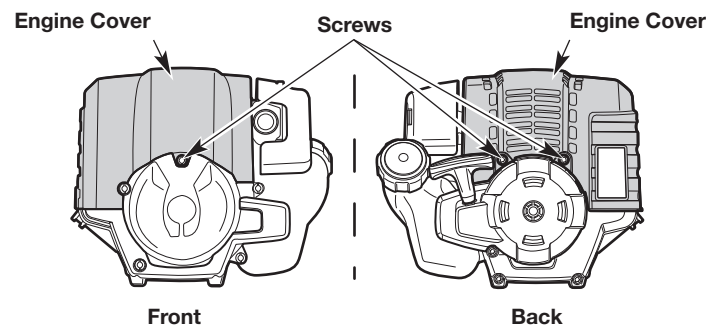

Fig. 39
2. Remove the three (3) screws from the engine cover with a flat-head screwdriver or T-25 Torx screwdriver (Fig. 39). Remove the engine cover.